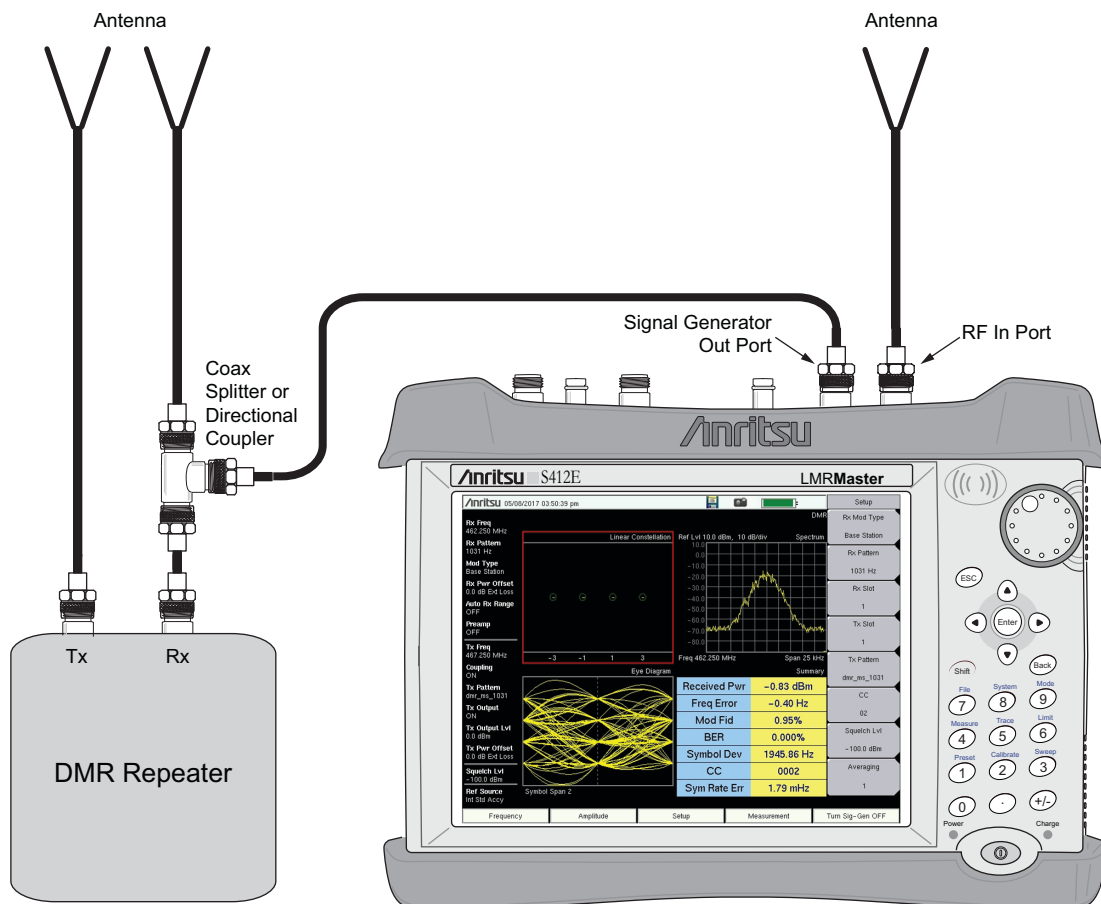

Figure 8-11. DMR Repeater Sensitivity Measurement Setup Example
1. Connect the equipment as shown in Figure 8-11:
9. Listen for a steady tone from the mobile station and note the BER measurement on the LMR Master DMR Summary screen (see Figure 8-11). The BER% should be within specification.